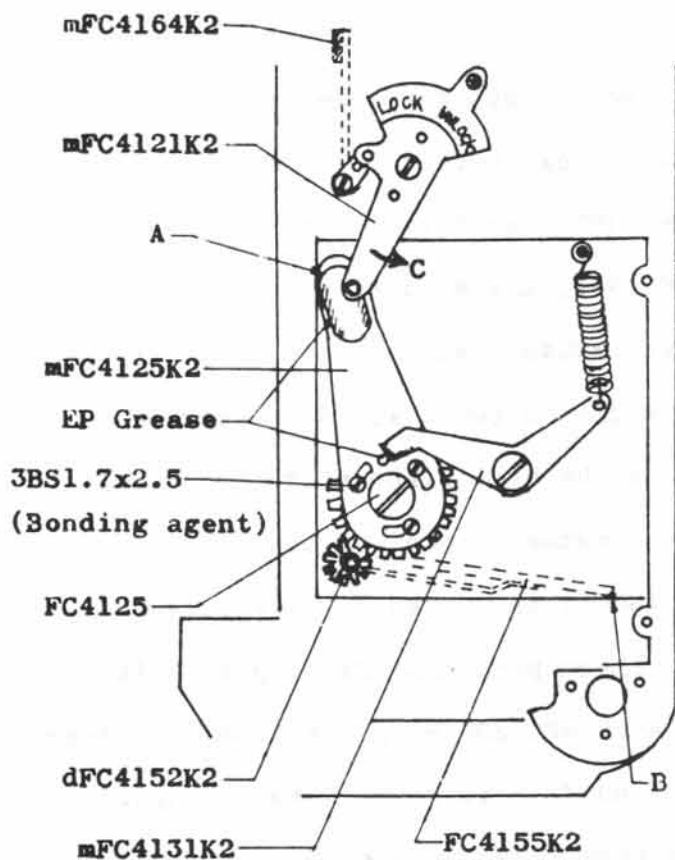

Fig. 11
The related position of the dFC4152K and the cut slit of the safety collar dFC4154 is shown in Fig. 11, above. Apply bonding agent to the tip of the screw 4B1.7x2.5, and secure the safety collar to the dFC4152K with the screw.
Then attach the light-tight flap assembly and secure it with a screw. Be careful of the related position of the flap assembly and the lever assembly FC4152K2 (see Fig. 11, below). Keep the play at "A" from 0 to 0.5mm. Let "B" touch the wall of the camera body by adjusting with a screw 3BS1.7x2.5. Apply some bonding agent to the screw. At this stage, the relative
(3).1. When the condition is like the picture at the bottom of Fig. 11, the cut slit of the safety collar dFC4154K on the other side faces upward.